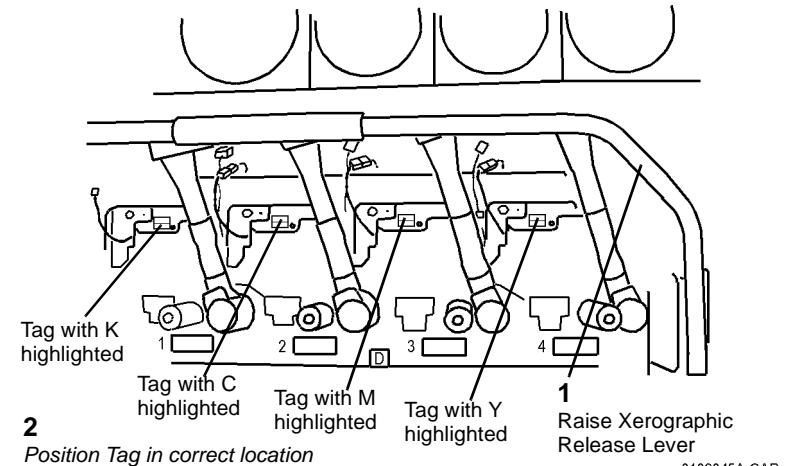

Figure 2 Installing ATC Sensor Setup Data Tag
3. During machine assembly, install ATC Sensor Setup Data Tag as shown (Figure 2).